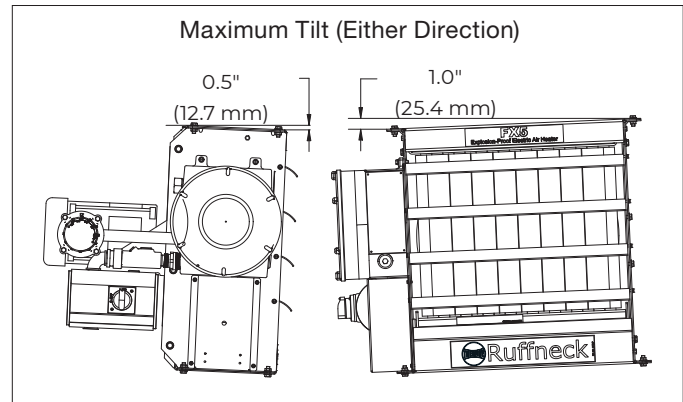
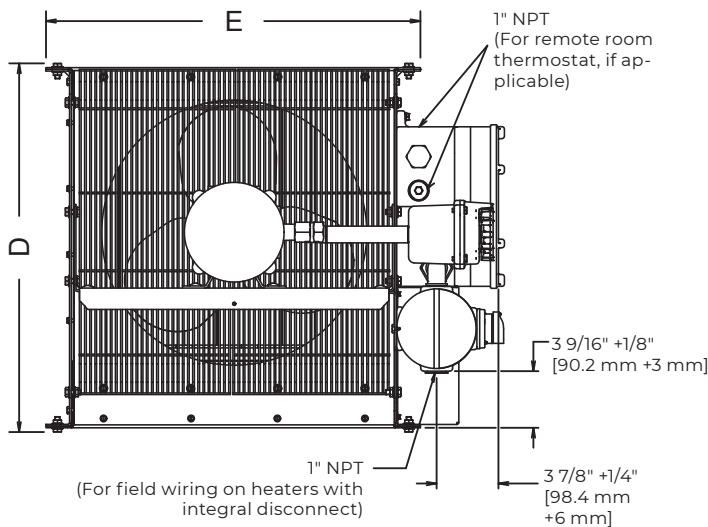

Figure 3
Figure 5
- 2.1 The heater must be permanently mounted in a level, upright position for operation. See Figure 3, Figure 4, and Figure 5 on page 7 and 8 for maximum tilt angles, installation clearances, and physical dimensions. For ease of installation, a variety of mounting kits are available from the factory.